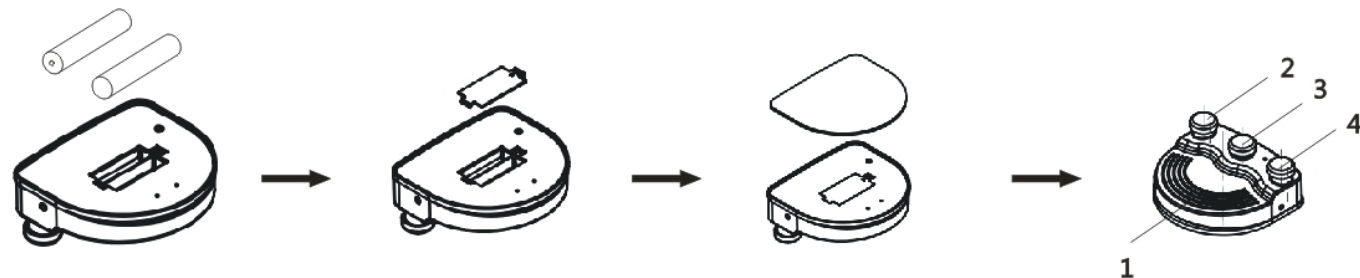
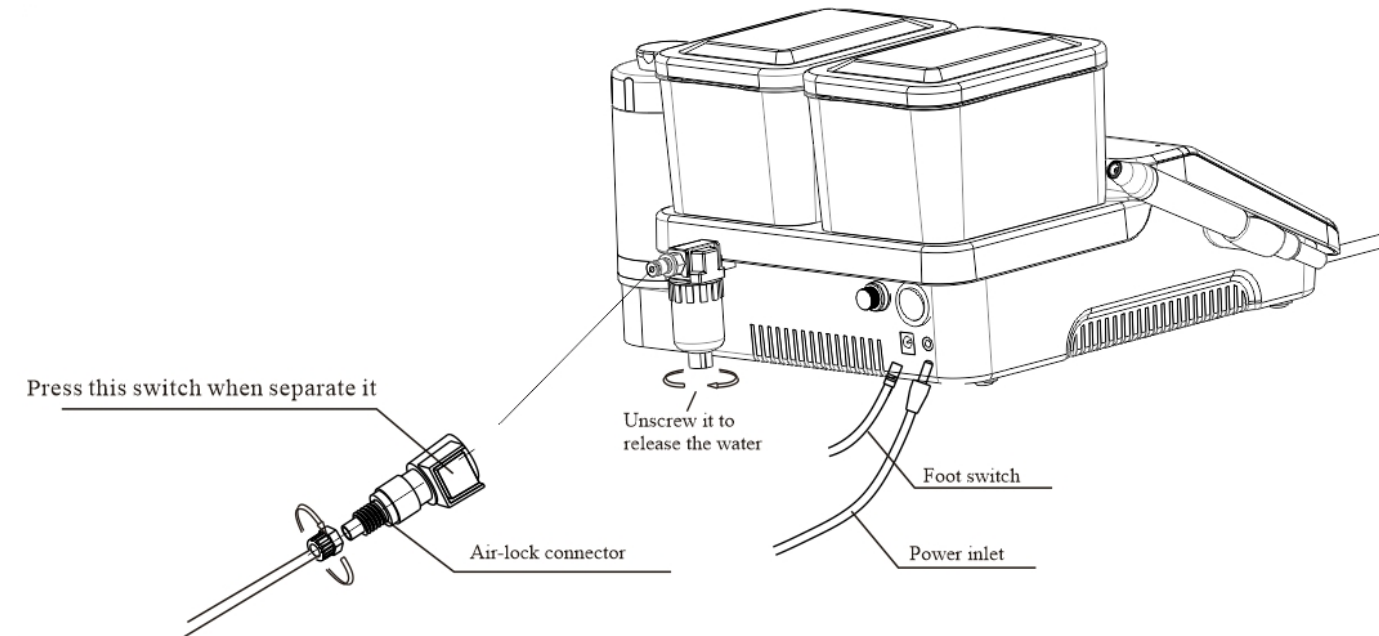

Figure 6
Figure 7
- (1) Take the main unit out of the box and put it on a stable plane.
- (2) Install batteries into wireless foot switch, or insert the plug of the wired foot switch into the socket of main unit. (See Fig. 6,7)
- (3) Liquid circuit installation: Fill up appropriate amount of purified water into the water bottle, and then insert the water bottle to the main unit.
- (4) Air circuit installation: Connect external air source to the air supply intake. (See Fig.7)
- (5) Fasten the tip to the handpiece with wrench, and then correctly connect the handpiece to the handpiece socket. Before install the handpiece, dry the handpiece connection and socket thoroughly.
- (6) Make sure that the power switch on the main unit is off. Insert the output plug of the power adapter to the main unit, and then insert the input plug of the power adapter to the electric supply.
- (7) Turn on the power switch of the main unit, and then LCD screen lights up. The left bottle is used by default.
- (8) The frequency during the normal working state is extremely high. Ensure that the tip is in normal working state, only light touch and reciprocate at a certain speed to clean tartar. There is no obvious heating at the tip and please avoid excessive local force or stay too long when cleaning teeth.
- (9) Vibration intensity: Adjust the vibration intensity as required, generally to a medium vibration intensity, or adjust the vibration intensity at any time during the clinical process according to the patient's sensitivity and the hardness of the calculus.
- (10) Water flow rate adjustment: Step on the foot switch, and the tip begins to vibrate, and then adjust the water flow rate to form spray to cool down the handpiece and clean the teeth.
- (11) After finishing operation, keep the device working for 30 seconds on the water supply condition in order to clean the